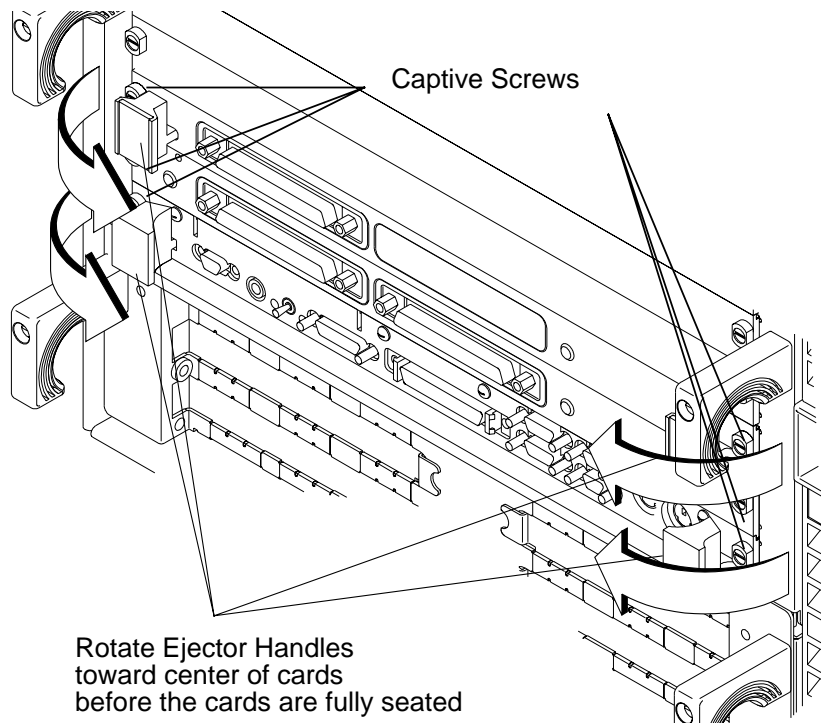

Figure 2-15
- 15 Engage all captive screws before tightening each screw of the board computer and PMC adapter(s). See Figure 2-15.